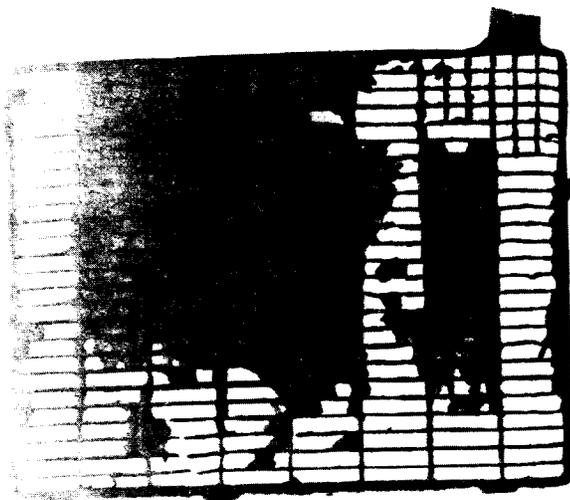

Fig. 4—Plate Damage Caused by Cycling
3.03 Repeated discharging and recharging, called cycling, causes material to shed from the positive plates. Shedding results in decreased battery performance, and if continued, will result in battery failure. Cycling can be caused by insufficient generator output. An example of damage to positive plates caused by cycling is shown in Fig. 4.